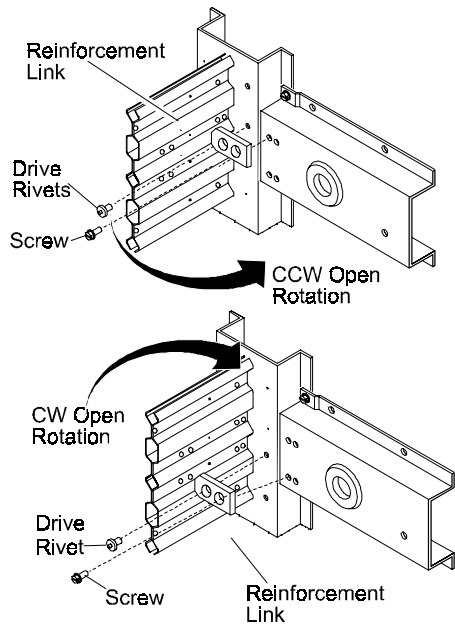

Figure 13: Installing Reinforcement Link
3. Install the reinforcement link to the universal mounting bracket with one thread-forming, hex-head screw, as shown in Figure 13. Do not tighten.
7. Reposition the reinforcement link and insert the drive rivet, as shown in Figure 13.